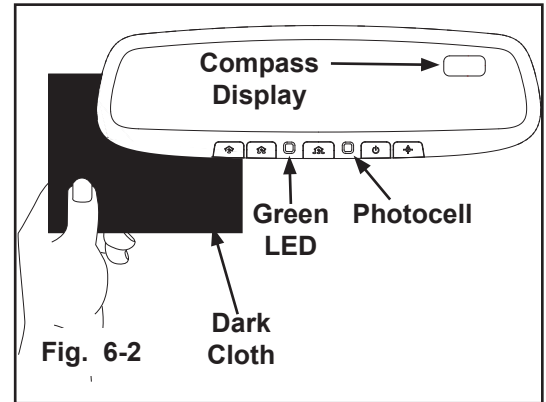

Fig. 6-2
- d) Cover the forward looking photocell on the back of the mirror with a dark cloth or towel and in a few seconds the mirror will begin to darken. (Fig. 6-2)
5. Push each HomeLink® button, one at a time, and verify that the LED indicator to the left of the center button illuminates red. (Fig. 6-2)